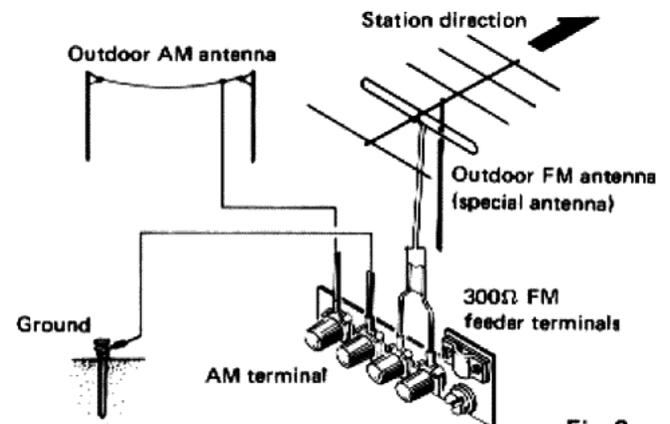

Fig. 3
- Connect antenna feeder wire to the 300Ω antenna terminals of the TX-9500 as shown in Fig. 3.
For optimum AM reception, an outdoor AM antenna using vinyl insulated wire can be erected as shown in Fig. 3.
For maximum safety and noise reduction, connect the GND terminal to an earth ground (Fig. 3).